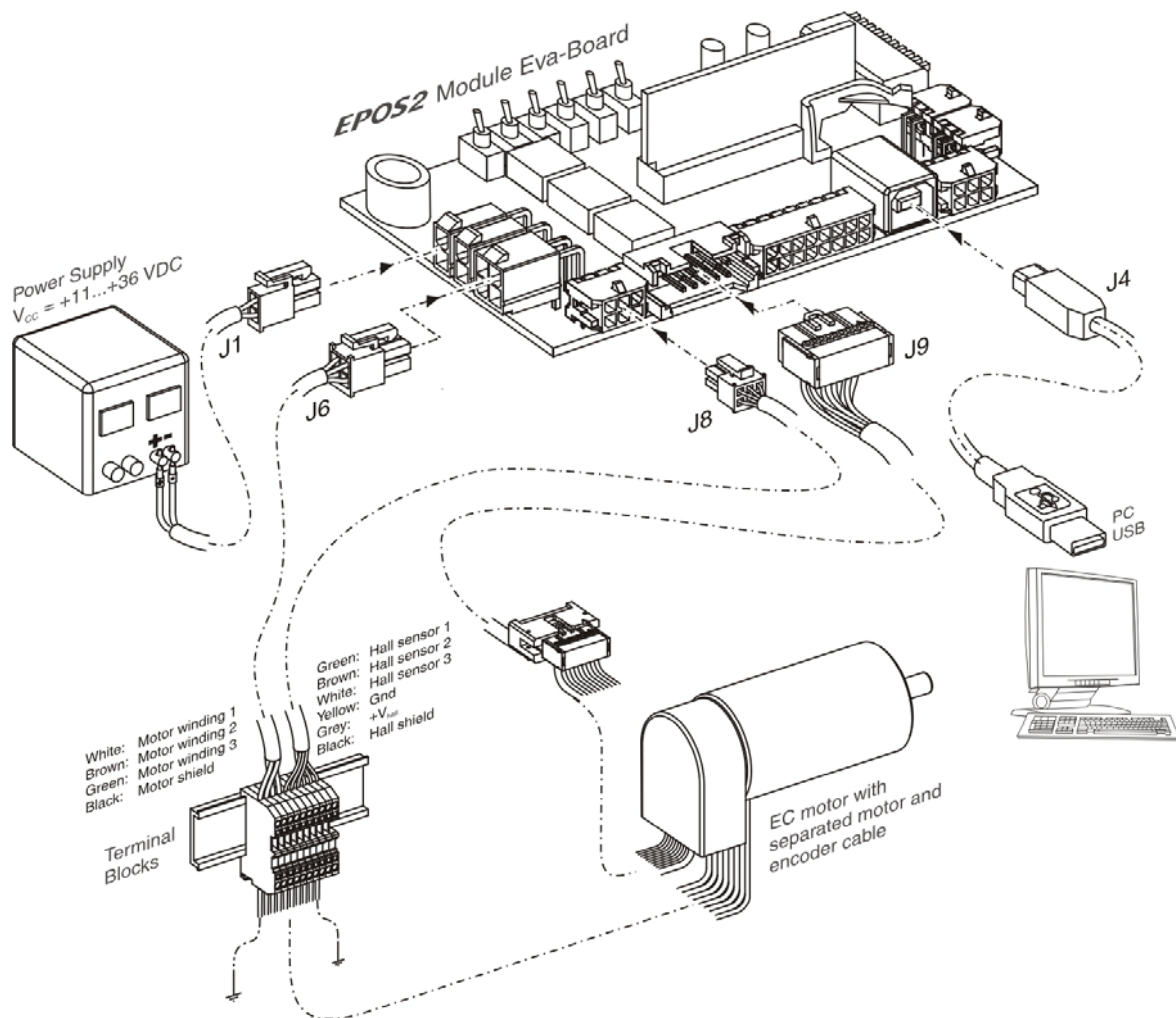

Figure 3-4 Minimum Wiring: maxon EC motor
- 3) Connect maxon cable assemblies (→ Table 3-6 and Figure 3-4).